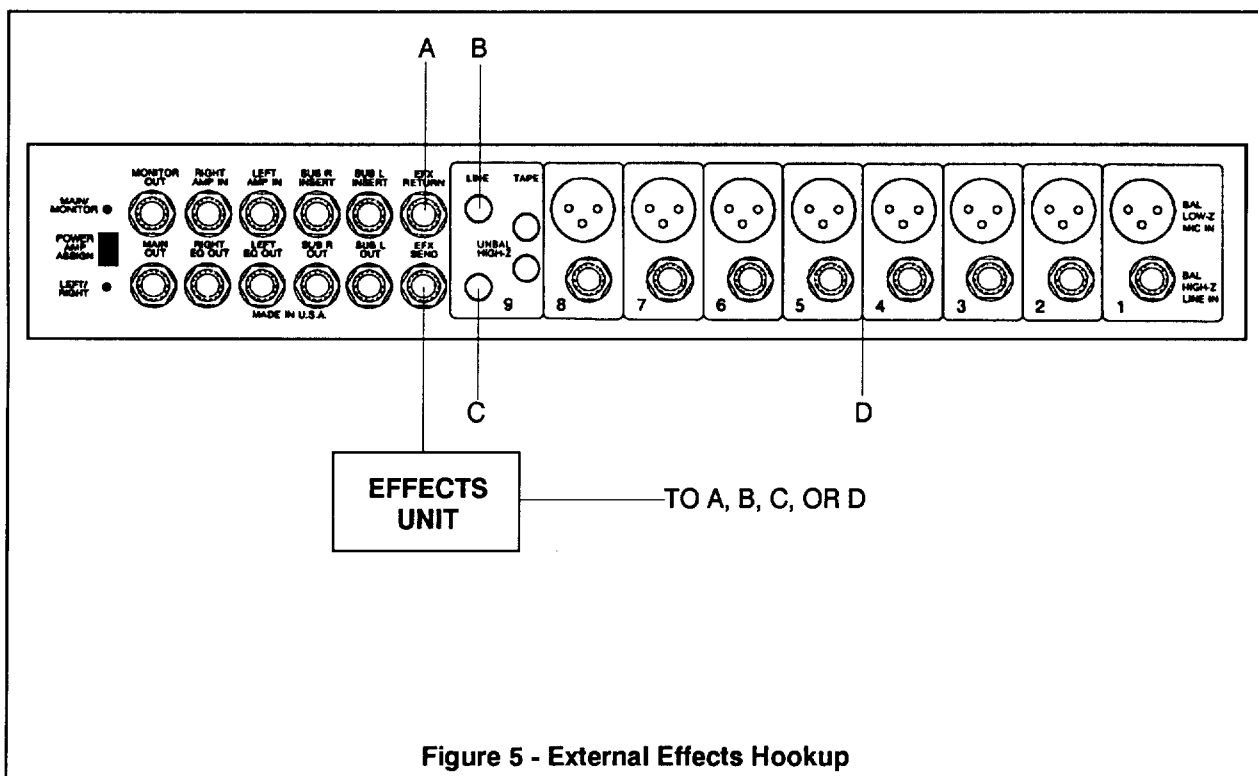

Figure 5 - External Effects Hookup
**EXTERNAL EFFECTS (See Figure 5)**